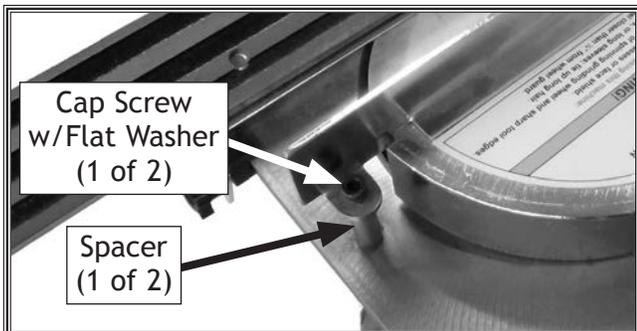

Figure 2. Location of wheel guard fasteners.
2. Remove (2) M5-.8 x 35 cap screws and (2) spacers, then remove old wheel guard (see **Figure 2**).